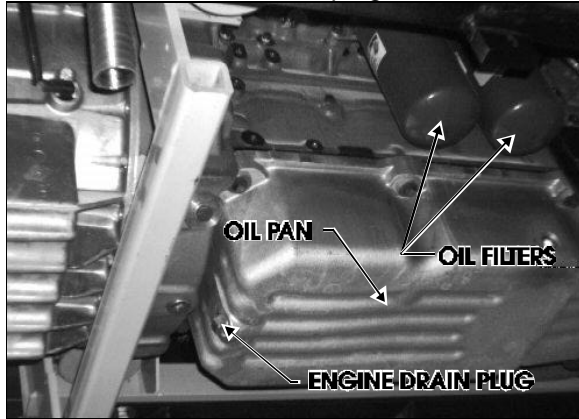

FIGURE 13: UNDER VEHICLE VIEW 01029
1. From under the vehicle, remove the engine drain plug on the oil pan. Allow oil to drain (Fig. 13).